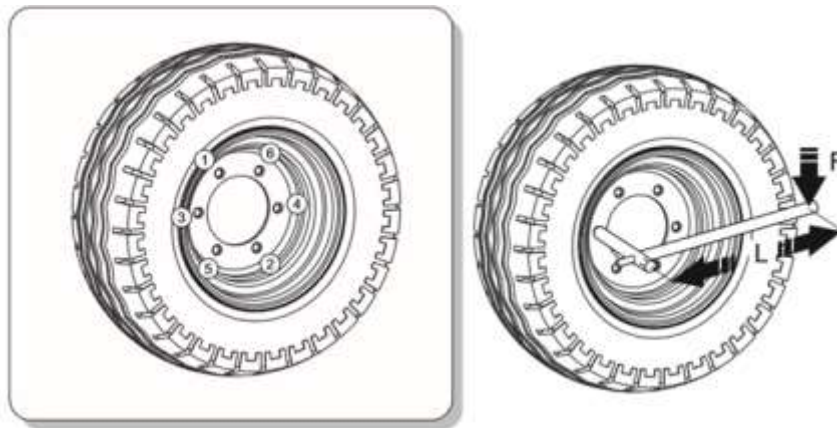

Figure 42 Nut tightening order
- Loosen the wheel nuts according to the order shown in Figure 42.
- Lower the bale wrapper, tighten the nuts according to the recommended torque and the order shown in Figure 42.